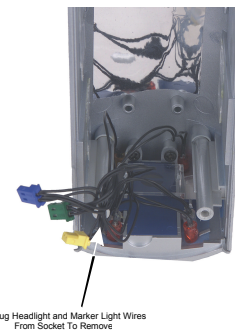

Figure 9
3. To replace the headlight bulbs, remove the harness with the blue 2 pin connector shown in Figure 9.
4. To replace the top marker lights, remove the harness with the yellow 2 pin connector shown in Figure 9.
5. To replace the marker lights below the headlight, remove the harness with the green 2 pin connector shown in Figure 9.